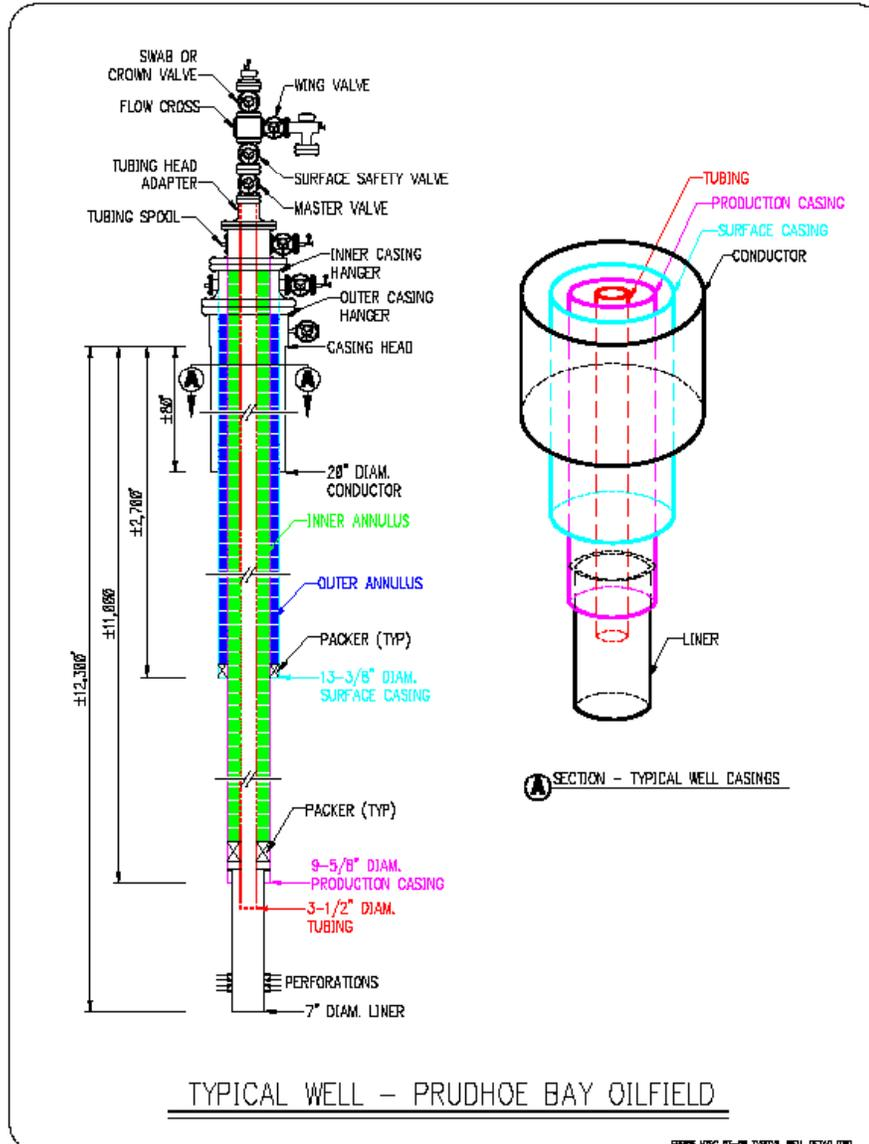

Figure 1
1. All wells have barriers to prevent crude oil and gas located in deep formations from reaching the surface in any manner other than through the center tube of the well which is called the production tubing. If formation oil and/or gas were to reach the surface in an uncontrolled way, even in limited quantities, it would be a dangerous situation which could result in fire, explosion, and serious injury or death. Figure 1 is a diagram of a typical well.